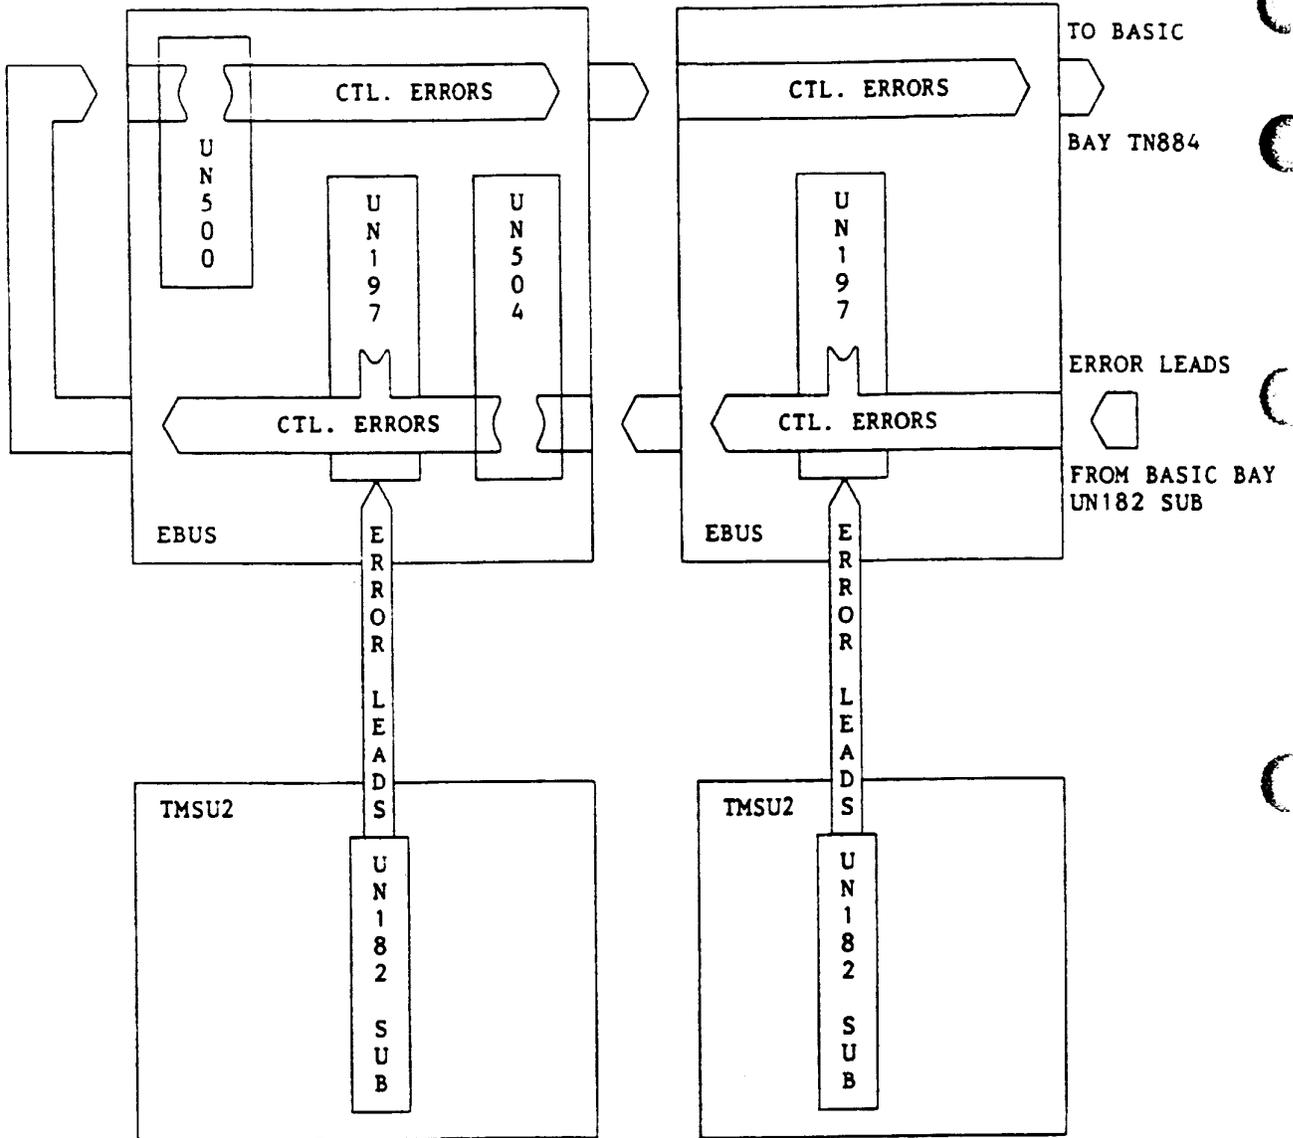

Figure 6. Control: Errors
2.08 The error leads are put on the EBUS by the UN182 SUB and are tapped off the bus by the IN884 TMS Control Board (Figure 6).